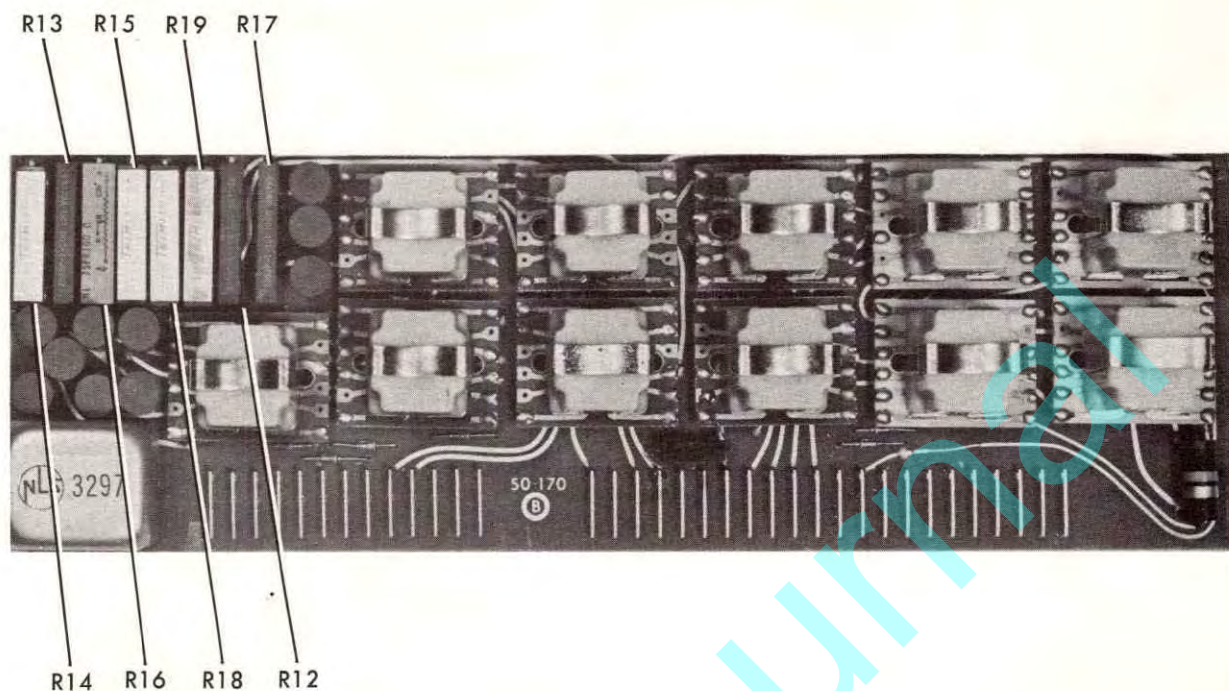

Figure 3-9. Input Switching Adjustment Points
4. Apply 90.000 MV and adjust R12 (figure 3-9) until readout displays 90.000 MV.
5. Place RANGE switch in 1 position. Apply .90000V and adjust R17 (figure 3-9) until readout displays .90000V.
Apply approximately .90000K ohms and adjust coarse and fine potentiometers on input switching board (R14 and R13, figure 3-9) respectively until readout agrees with standard. Once instrument is calibrated in 1K range, do not again adjust R14 or R13.
4. Place RANGE switch in 10K range. Apply approximately 9.0000K ohms and adjust 10K potentiometer on input switching board (R16, figure 3-9) until readout agrees with standard.
5. Place RANGE switch in 100K range. Apply approximately 90.000K ohms and adjust 100K potentiometer on input switching board (R15, figure 3-9) until readout agrees with standard.
6. Place RANGE switch in 1 MEG range. Apply approximately 900.00K ohms and adjust 1 MEG potentiometer on input switching board (R18, figure 3-9) until readout agrees with standard.
7. Place RANGE switch in 10 MEG range. Apply approximately 9000.0K ohms and adjust 10 MEG potentiometer on input switching board (R19, figure 3-9) until readout agrees with standard.